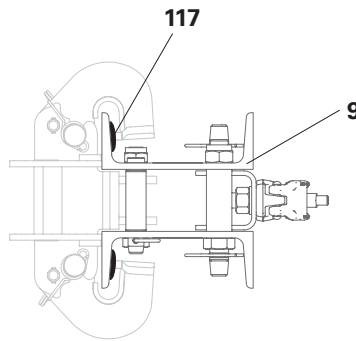
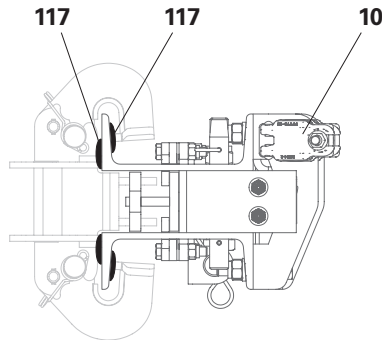
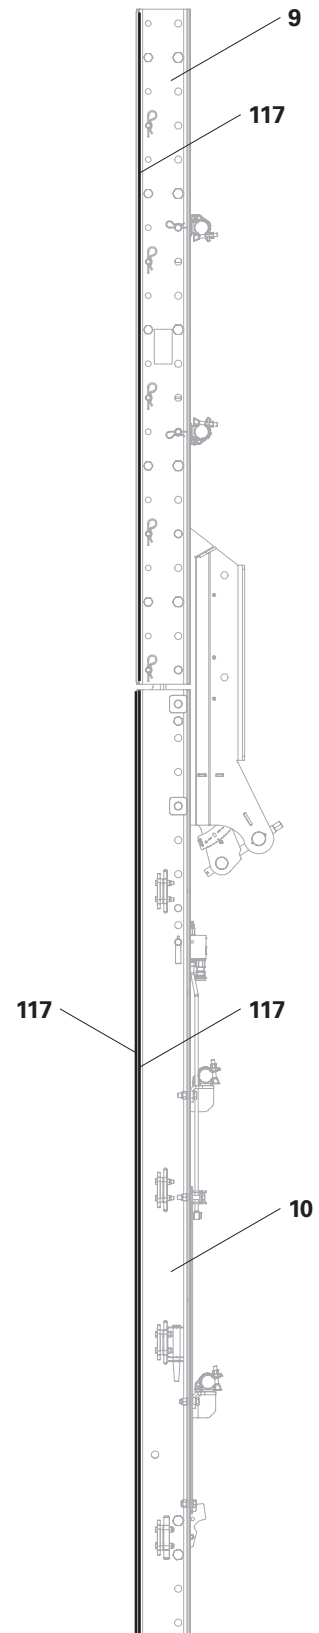

Fig. C3.01
Fig. C3.02
Fig. C3.03
1. Lubricate the entire length of the Climbing Rail RCS (9) with multi-purpose grease (117) on the inside of the sliding area of the guiding skids. (Fig. C3.01 + Fig. C3.03)
1. Lubricate the entire length of the Driving Rail RCS MAX (10) with multi-purpose grease (117) on the inside of the sliding area of the guiding skids.
2. Lubricate the entire length of the Driving Rail RCS MAX (10) with multi-purpose grease (117) on the outside of the sliding area of the upper guiding skids. (Fig. C3.02 + Fig. C3.03)